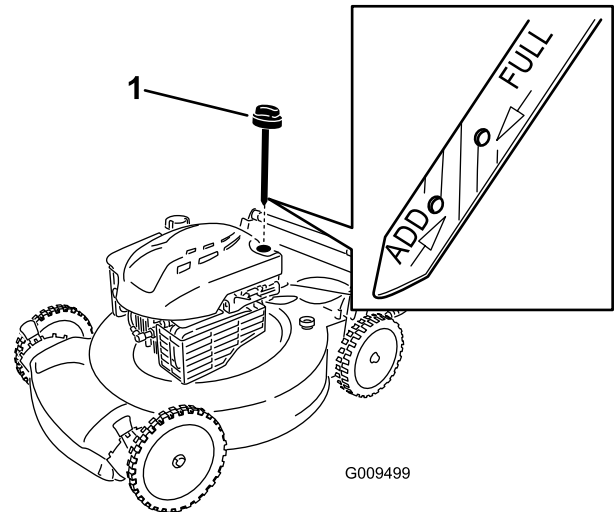

Figure 8
2. Remove the dipstick (Figure 8).
**Note:** If the oil level is below the **Add** mark on the dipstick, **slowly** pour a small amount of oil into the oil fill tube, wait 3 minutes, and repeat steps 3 through 5 until the oil level is at the **Full** mark on the dipstick (Figure 8).